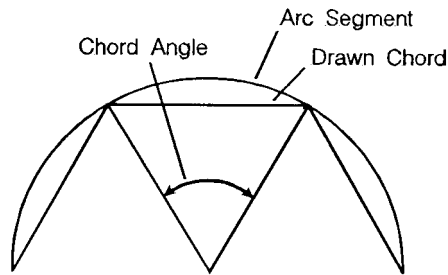

Figure 54. Chord Angle
- **$chord_angle$:** Specifies, in degrees, the chord angle used to draw the arc. The default is a chord angle of 5° . The *chord_angle* specifies the maximum angle created when lines from each end of the chord intersect the center point of the circle (see Figure 54). The smaller the chord angle, the smoother the curve. The useful range is from 0.0° to 180.0° . A chord